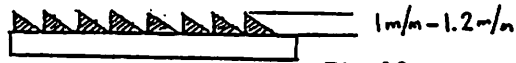

Fig.10
11) The height of feed dog (Fig.10)